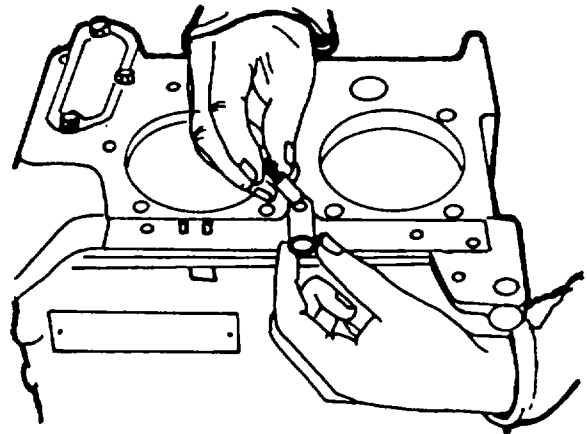

Figure 5-37. Assembling Threaded Sleeve to Middle Screw
48. Assemble the front and middle screws to align the pressed steel bottom plate in position. The treaded sleeve must be assembled to the middle screw (figure 5-37).